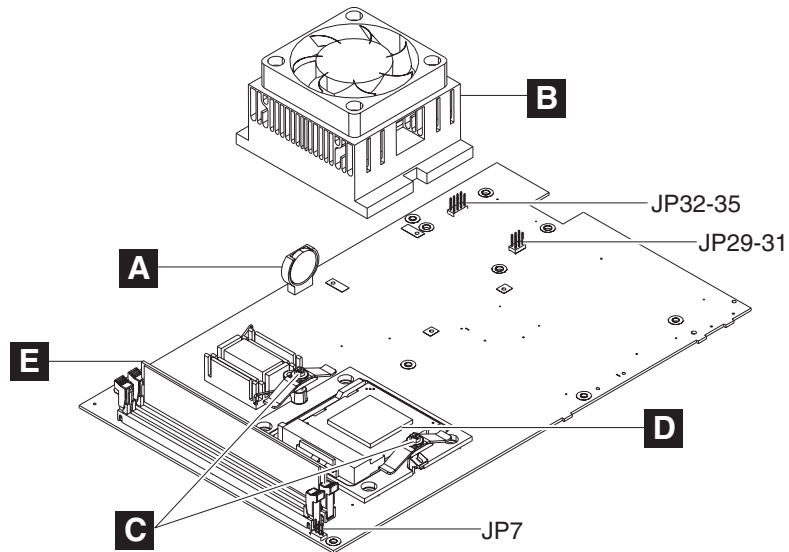

Figure 47. Dual video adapter or jumper location
6. Remove the old battery from the slot **A** as shown in Figure 47.